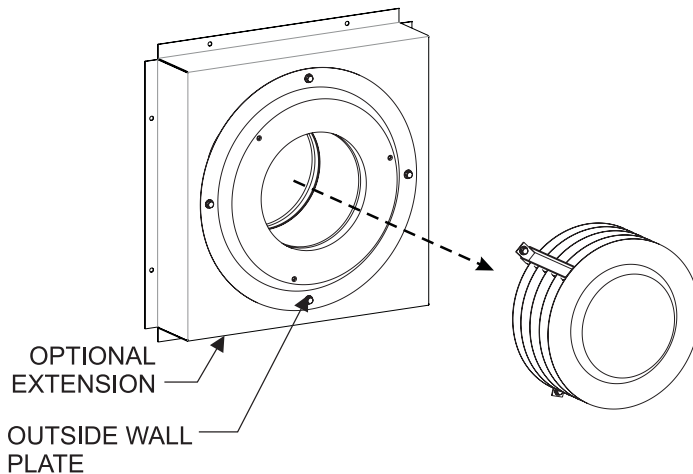

Figure 1
2. Remove the three #10 x 1/2" hex-head screws securing the round vent cap to the outside wall plate and remove the vent cap and tubes. **See Figure 1.**